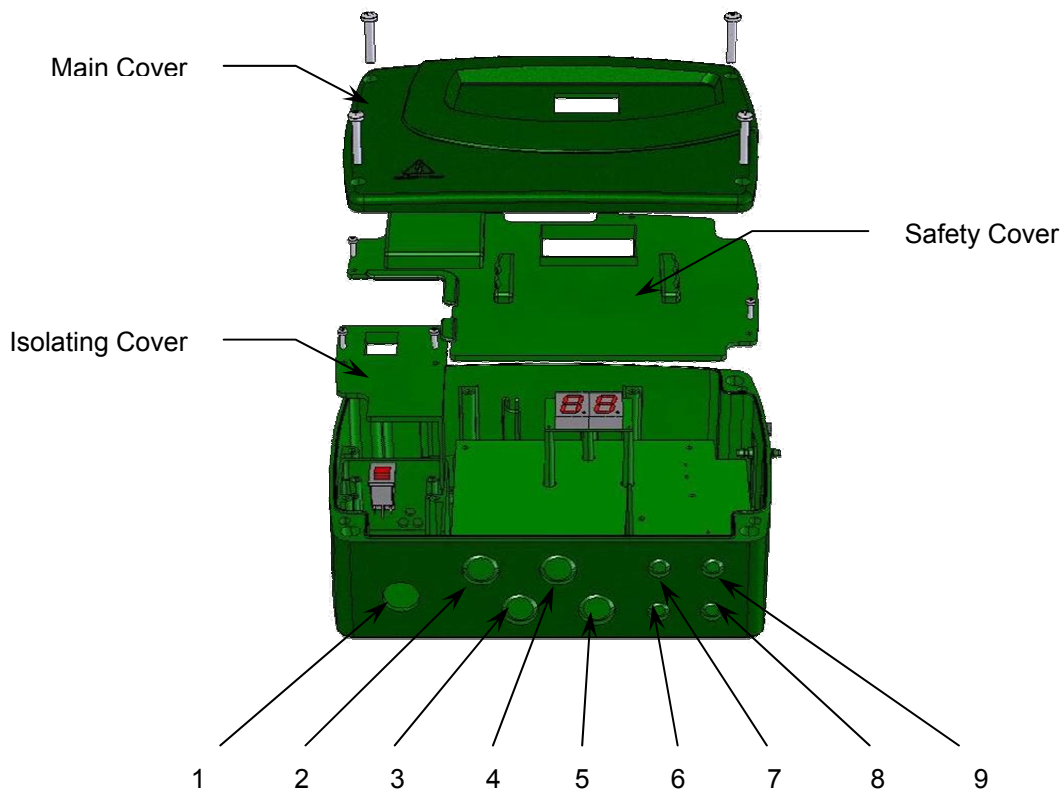

Figure 1 : Control Panel Gland Holes
- 3.3.4 Using a suitable M20 gland, feed the mains power supply through Gland Hole 1 (Figure 1). Wire the mains supply to the terminal blocks following the guide on the connections.
- 3.3.6 Using a suitable M20 gland, feed the motor power supply cable through Gland Hole 4 (Figure 1) and terminate to connections 5 & 6 (TB3) following the guide on Table 2.
- 3.4.1 Using a suitable M20 gland, feed the integral discharge pump power cable through Gland Hole 2 (Figure 1) and terminate to connections 1 & 2 (TB1) following the guide on Table 2.
- 3.5.1 Using a suitable M20 gland, feed the integral discharge pump power cable through Gland Hole 3 (Figure 1) and terminate to connection 3 & 4 (TB2) following the guide on Table 2.
- 3.6.1 Using a suitable M20 gland, feed the chemical dosing pump power cable through Gland Hole 5 (Figure 1) and terminate to connections 7 & 8 (TB4) following the guide on Table 2.
- 3.6.2 Using a suitable M12 gland, feed the chemical dosing probe cable through Gland Hole 8 (Figure 1) and terminate to connections 13, 14 & 15 (TB7) following the guide on Table 2.
- 3.7.1 Using a suitable M12 gland, feed the loss of rotation alarm cable through Gland Hole 6 (Figure 1) and terminate to connection 9 & 10 (TB5). The two contacts are not position sensitive.
- 3.8.1 Remove the link in the terminal blocks between connections 11 & 12 (TB6) before inserting cables. Using a suitable M12 gland, feed the high level alarm float cable through Gland Hole 7 (Figure 1) and terminate to connection 11 & 12 (TB6) following the guide on Table 2.
- 3.9.2 Using a suitable M12 gland, feed the cable from the beacon through Gland Hole 9 (Figure 1) and terminate to connection 16, 17 & 18 (TB8) following the guide on Table 2.